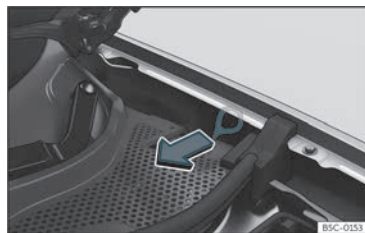

Fig. 192 Between the left wing panel and the engine bonnet hinge: Charging connector manual release mechanism puller.
The puller for the manual release mechanism is at the front left of the vehicle interior, above the charging socket >>> **Fig. 192**.
- Pull the puller >>> **Fig. 192**.